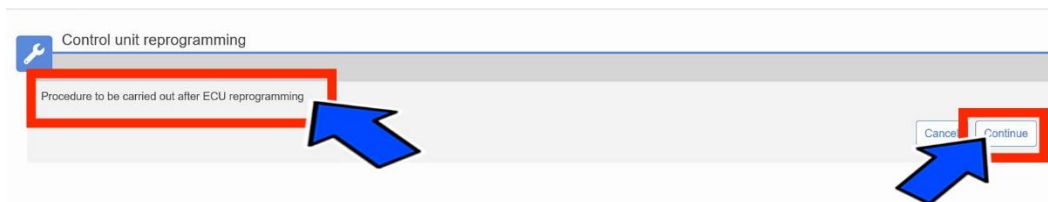

Figure 39 - Procedure to be Carried Out After ECU Reprogramming
- 18. Select “Procedure to be carried out after ECU reprogramming” and then click “Continue” (Figure 39).